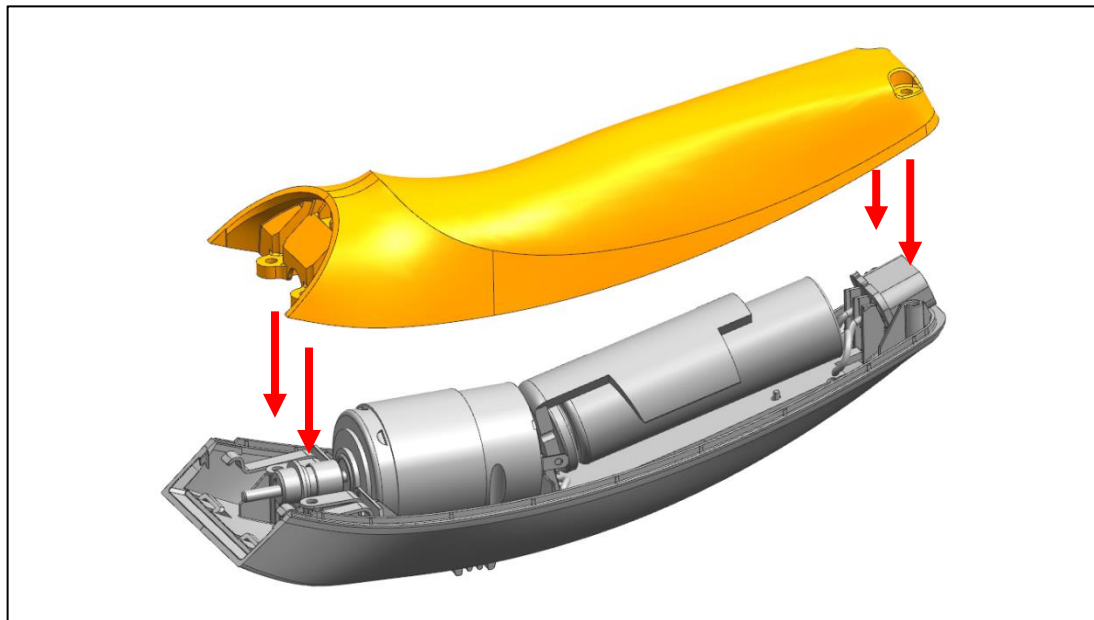

Fig. 36
- a) Attach the lower housing to the existing unit, so that the screw openings are exactly above the screw bosses (Fig. 36).